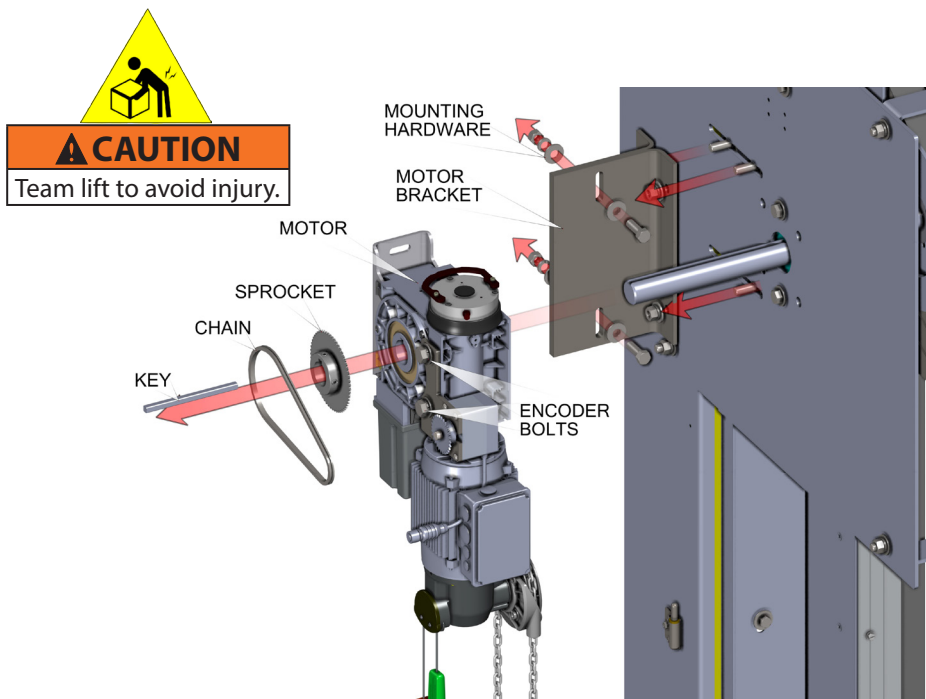
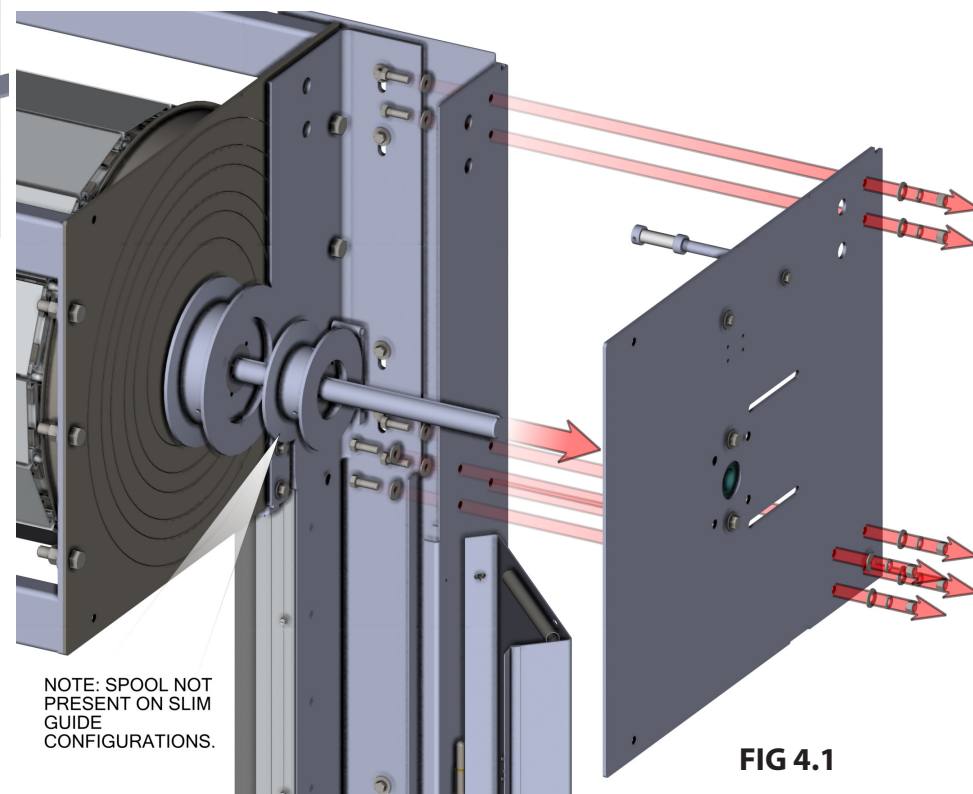

FIG 4.0
FIG 4.1
4. Remove the encoder bolts and take chain off sprockets. Next, remove the encoder and sprocket from the motor and set aside. Unbolt the motor and set aside. Slide the motor off from the shaft and set the key aside, as shown in **FIG 4.0**. Remove bolts from side plate. Remove plate and set the aside, as shown in **FIG 4.1**.